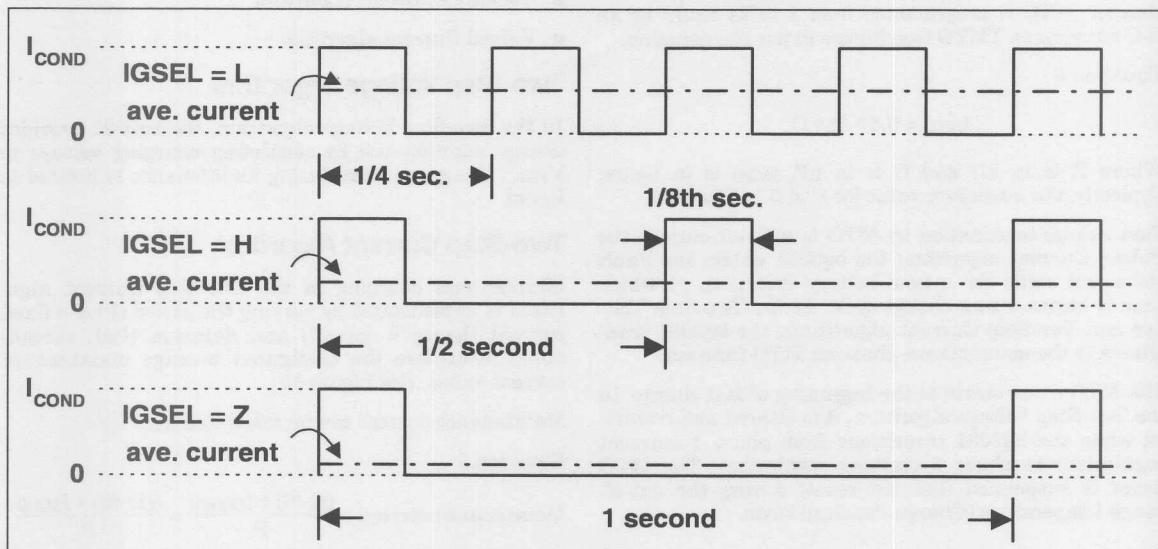

Figure 10. Implementation of Fixed-Pulse Maintenance Charge
Maintenance charging in the Two-Step Current Algorithm is implemented by varying the period (P) of a fixed current (I_{COND} = I_{MAX}/5) and duration ($\frac{1}{8}$ th second) pulse to achieve the configured average maintenance current value. See Figure 10.